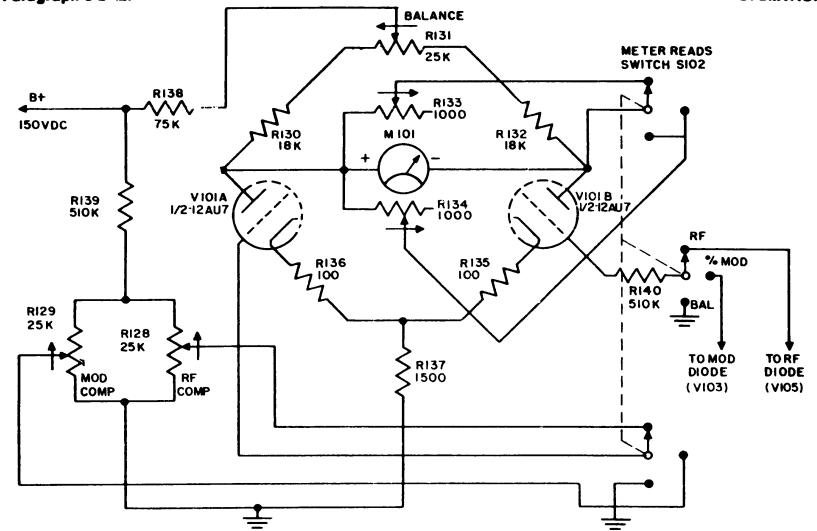

Figure 2-8. Schematic Diagram of the Variable RF Attenuator Circuit
(See figure 2-8).
a. The RF attenuator circuit consists of a step attenuator (E-112) and dual potentiometer MICROVOLTS control (R-155), both located in the shielded buffer-amplifier compartment. Both controls vary the carrier voltage applied to the X MULT RF OUTPUT jack (J-102) but only the MICROVOLTS control (R-155) affects the voltage at the X 20, 000 RF OUTPUT jack (J-101). The value of the voltage at the X MULT RF OUTPUT jack (J-102) is determined by multiplying the meter (M-101) reading by the indicated position of the MULTIPLIER dial (1-104). The entire circuit is effectively resistive so that the attenuation introduced is substantially independent of frequency within the limits of the instrument. The output impedance of the attenuator system as taken from the X MULT RF jack (J-102) is constant at 53.5 ohms for any position of the attenuator MULTIPLIER dial (1-104). The attenuator (E-112) and associated circuit are shown, schematically in figure 2-8.